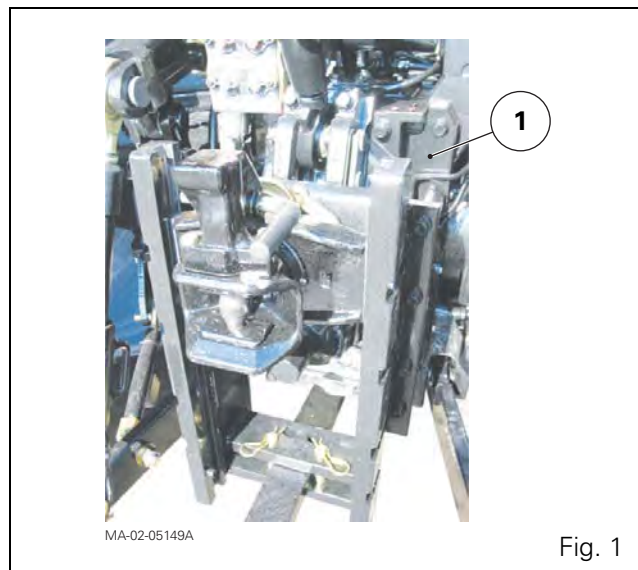

Fig. 1
It is necessary to move the PTO housing (1) backwards (Fig. 1) in order to:
Parts list (Fig. 1)